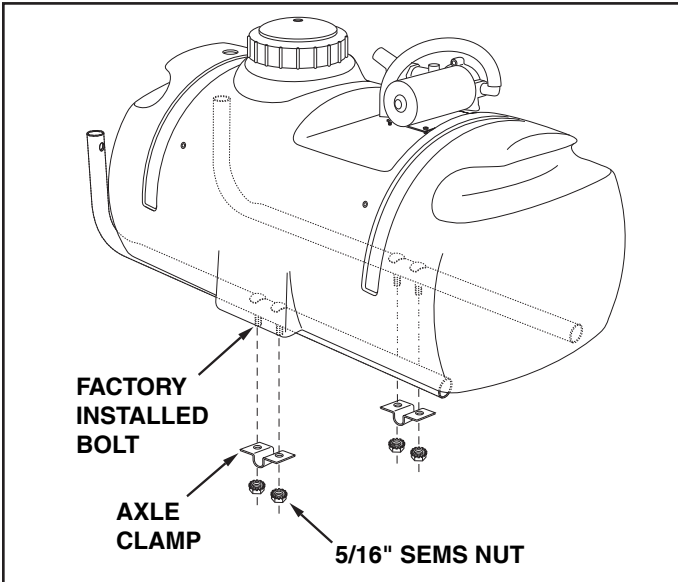

FIGURE 1
2. Assemble the axle clamps and four 5/16" SEMS nuts to the factory installed bolts in the frame tubes. **Do not tighten yet.** See figure 1.
5. **Tighten** the four nuts which fasten the axle clamps to the frame tubes. Refer back to figure 1.